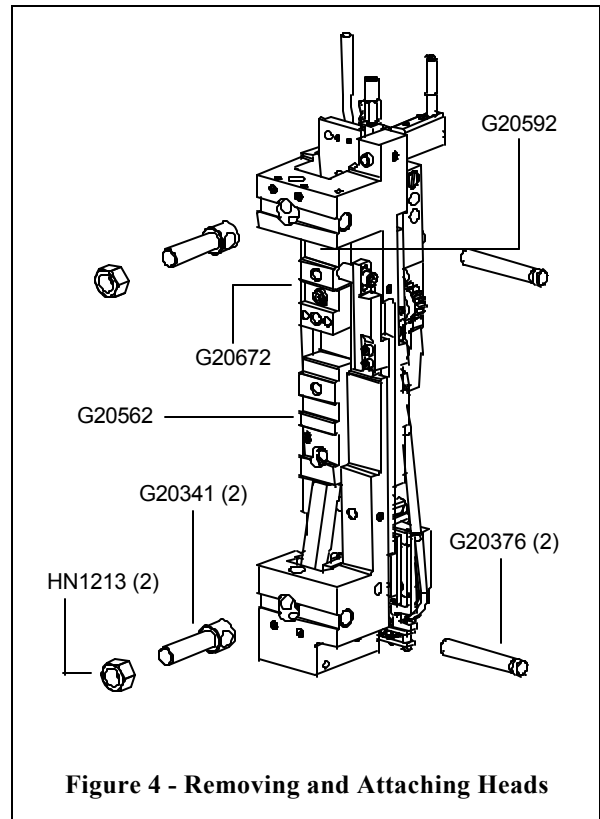

Figure 4 - Removing and Attaching Heads
This G20 Head comes with two (2) Rear Mounting Bolts (G20341), Rear Clamp Pins (G20376) and Bonnet Stud Nuts (HN1213) for mounting. **Refer to Figure 4.**